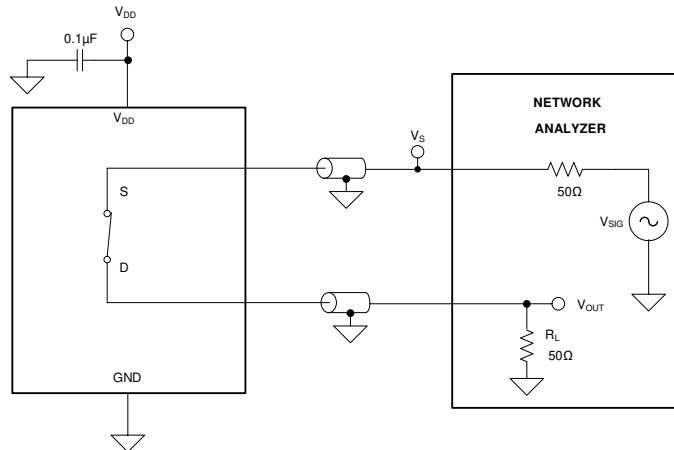

Figure 7-7. Bandwidth Measurement Setup
Bandwidth is defined as the range of frequencies that are attenuated by less than 3dB when the input is applied to the source pin (S) of an on-channel, and the output is measured at the drain pin (D) of the device. The characteristic impedance,  $Z_0$ , for the measurement is  $50\Omega$ . Figure 7-7 shows the setup used to measure bandwidth.